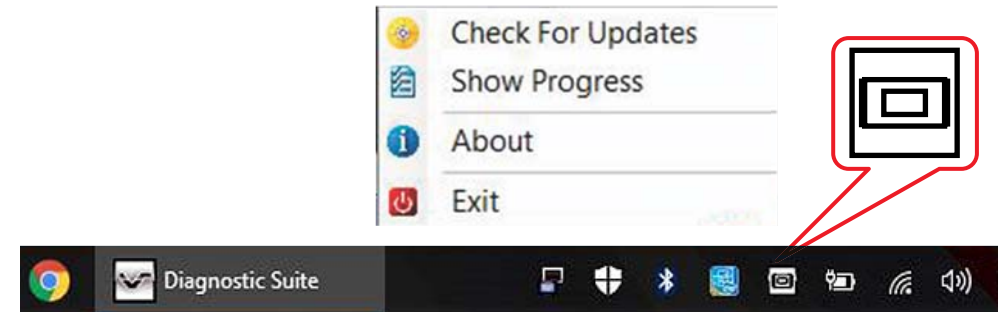
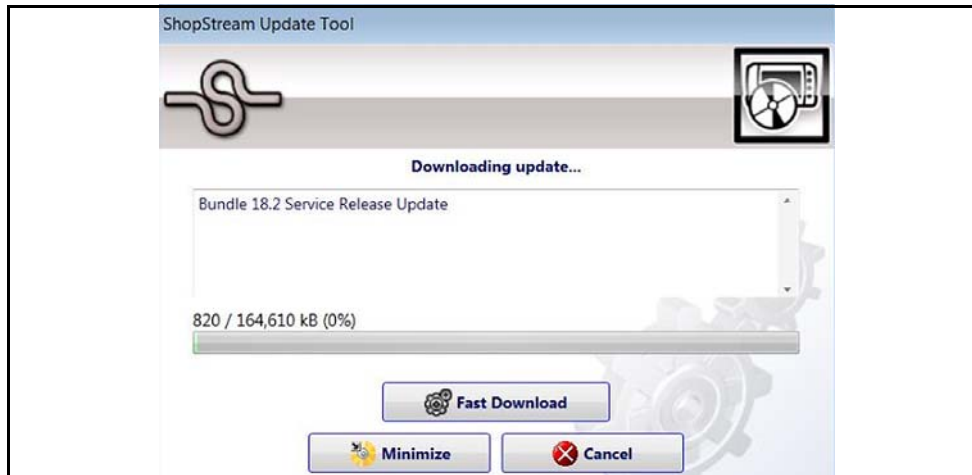

Figure 14-4 ShopStream Update Tool icon and menu
Figure 14-6 Typical - Update status window
1. Select the SST icon in the Windows taskbar notification area to open the menu (Figure 14-4).
- If updates are found, they will automatically begin to download (Figure 14-6).
To view the update status window (Figure 14-6), select **Show Progress** from the SST icon menu (Figure 14-4).
The percentage status bar may not always be displayed while downloading (Figure 14-6).